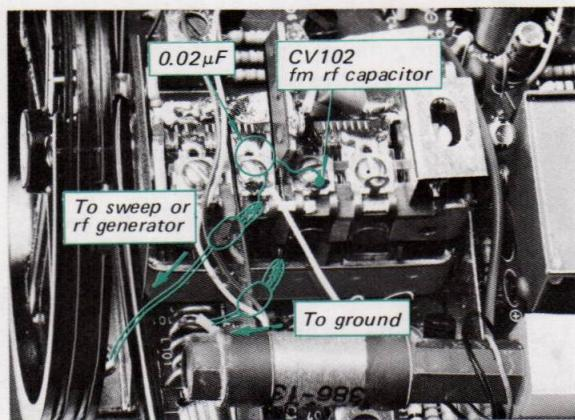

Fig. 3-4. 10.7 MHz signal injection
2. Connect the output cable of the sweep generator across CV102 on tuner and MPX board. Use alligator clips and make the connection through a  $0.02\mu F$  coupling capacitor as shown in Fig. 3-4.